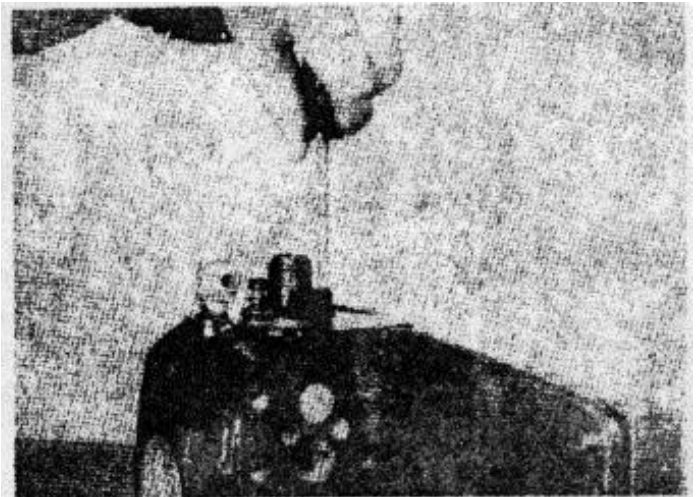

Figure 4-16. Removing tachometer cover screws
1. Remove the tachometer drive cover screws. Fig. 4-16.